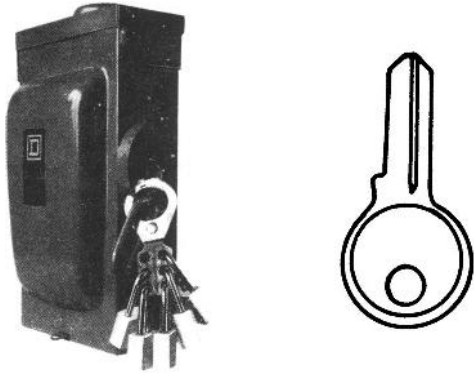

Fig. 2-9 Locked box for safety purposes. (Klein)
9. Before servicing or working on equipment, disconnect the power source (this applies especially to equipment using automatic restart devices instead of manual restart devices. See Fig. 2-9 where a specially designed switch and panel box has double interlocking hasp of tempered steel with interlocking tabs for extra security. For safety reasons